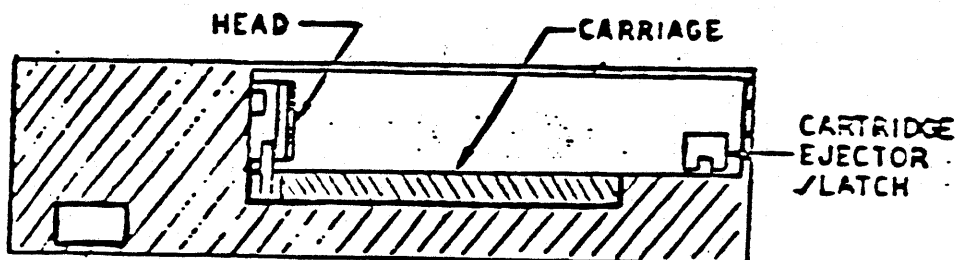

Figure 8.2. Front View
3. Slowly push the cartridge ejector/latch toward the back. Stop pushing when the latch "clicks". The eraser end of a pencil is preferred as an actuator. See Figure 8.2.